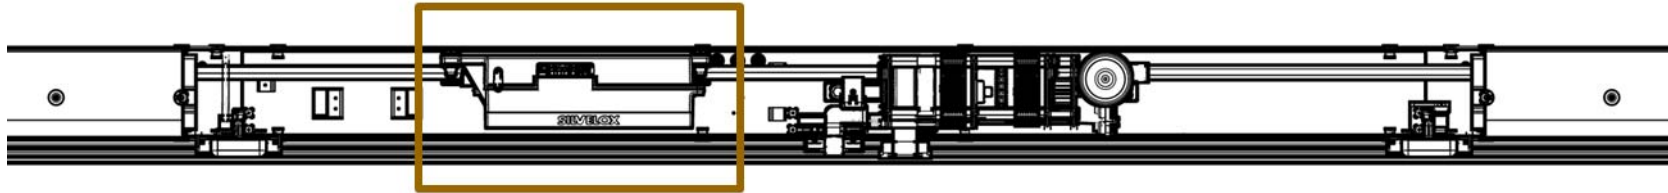
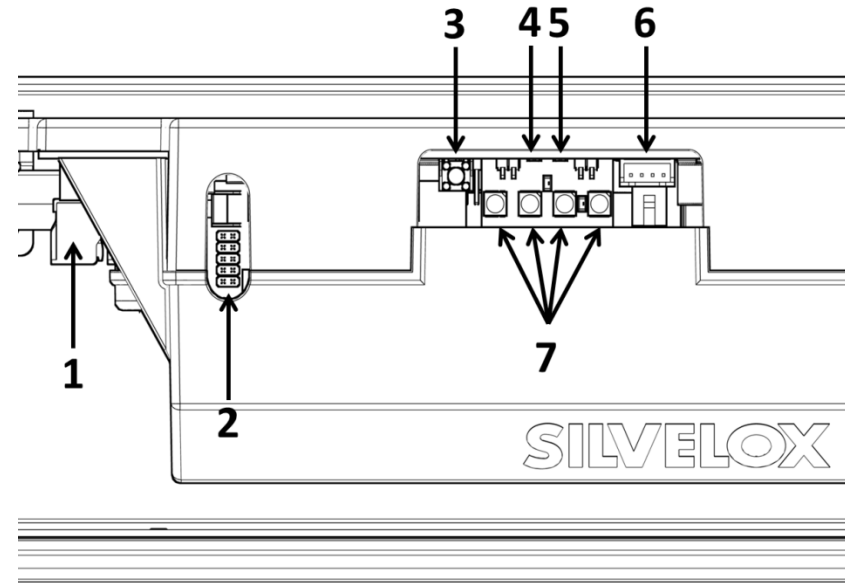

Figure 4-1
Figure 4-2
The electric connections and the electronic components are located in the operator control unit box, immediately visible on the headbar, if the headbar central cover is not in place (figure 4-1). The electric connections/components are listed in table 4-1, referring to Figure 4-2
Safety appliances and/or optional devices have to be connected to the terminal blocks (Figure 4-2 reference number 1). A close view of the terminal blocks is presented in Figure 4-3 and the contact descriptions are listed in Table 4-2. To facilitate the cable connections it is possible to remove the terminal blocks from their sockets and place them back once the connections are placed. In Section 4-3 the wiring diagram can help to visualize the connections.
- Keep pressed for 3 seconds the TTC Control Button (Figure 4-2 referenced as number 3); the Diagnostic LED (Figure 4-2, referenced as number 4) will blink 2 times;
- The Diagnostic LED (Figure 4-2, referenced as number 4): it starts to blink (red color) in case of electronic anomalies;
- The Voltage LED (Figure 4-2 referenced as number 5): it turns ON (green color) once the door is plugged to the power network;
- The Courtesy Light LEDs (Figure 4-2, referenced as number 7): it is a group of four white LEDs; once the door is activated, they turn ON and stay ON for 1 minute after that the door operation is completed.